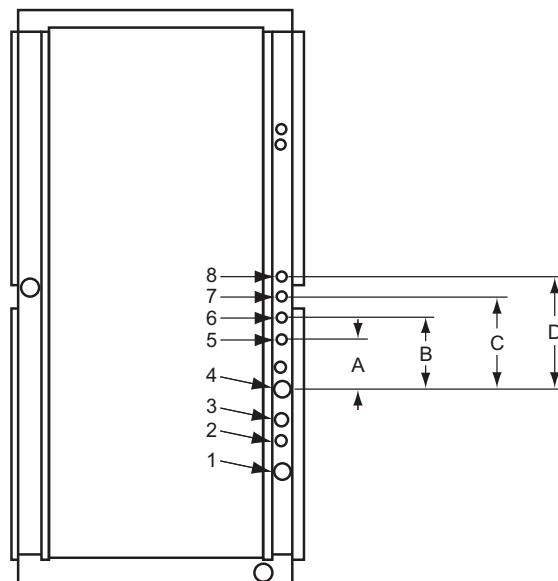

Fig. 8 — Refrigerant and Chilled Water Piping Access Holes
The 40RL direct-expansion units have internal factory-installed thermostatic expansion valves (TXVs), distributors, and nozzles for use with R-454B. See Table 9 for part numbers. Knockouts are provided in the unit corner posts for 40RL refrigerant piping. See Fig. 8, which also lists recommended knockouts and access holes to use for each 40RL unit size. Refrigerant and chilled water piping access hole data is listed in Table 10. Recommended fittings are listed in Table 11.
The 40RL Series units come with standard knockouts for refrigerant and chilled water piping. These knockouts are located on both sides of the unit for installation flexibility. The standard knockouts provide sufficient access to the unit's coils for all 40RLA*14, 16, 25, 28, and 30 units. 40RLQ*16 and 25 units, as well as 40RLS*14, 16, 25, 28, and 30 units require additional holes that must be field-fabricated to accommodate the piping. See Fig. 8 for the positions and dimensions of the additional access holes required for 40RLQ and 40RLS units. Recommended access hole use is also listed for all units. Note that Fig. 8 shows the access holes on the control-box side of the unit; this is the side of the unit with the coil headers, so it is used most often for piping access.
- a. See Fig. 8 for access hole location by number.
Knockouts are provided in the unit corner posts for 40RLS refrigerant piping. Additional field-fabricated access holes are required for 40RLS chilled water piping. See Fig. 8, which lists recommended knockouts and access holes to use for each 40RLS unit size.